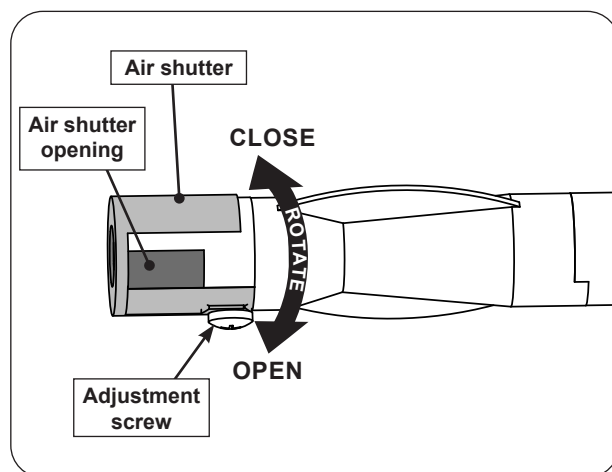

Fig. 30-2 Side burner air shutter adjustment detail
2. Loosen the adjustment screw with a screwdriver, then carefully rotate the shutter to open or close it. See Fig. 30-2 for details.